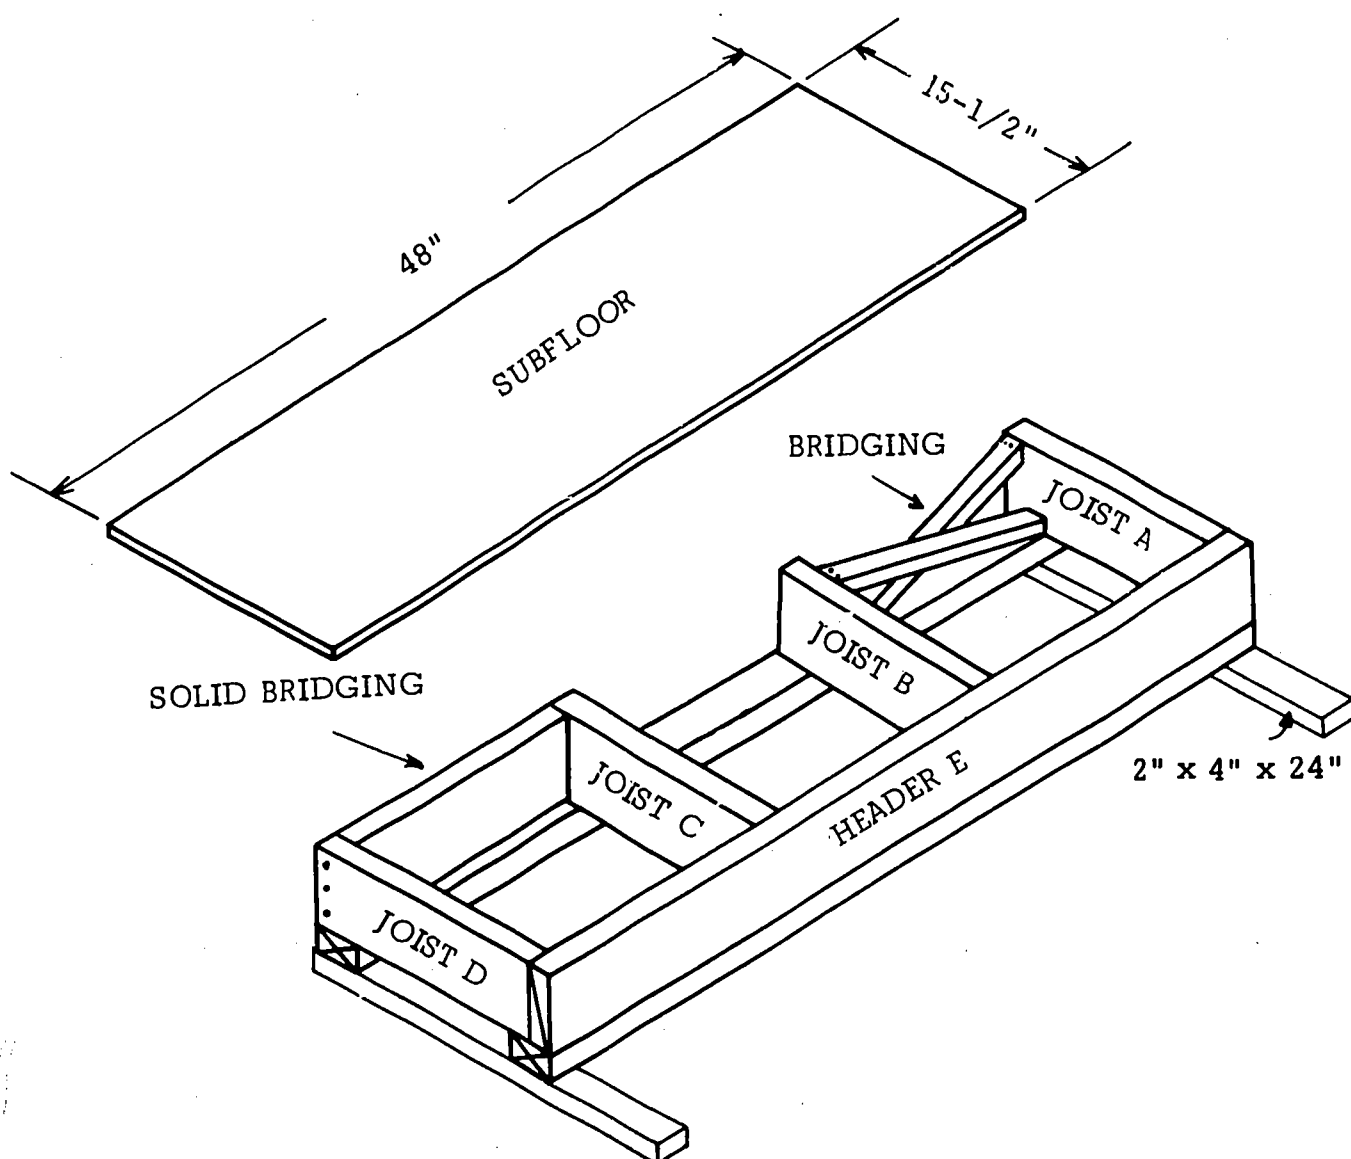

Fig. 86-1
2. See Fig. 86-1. Refer the students to Fig. 47C-2 in their Laboratory Manual. Explain the difference between the two kinds of bridging shown in the illustration. (Both are used to stabilize the floor joists.)